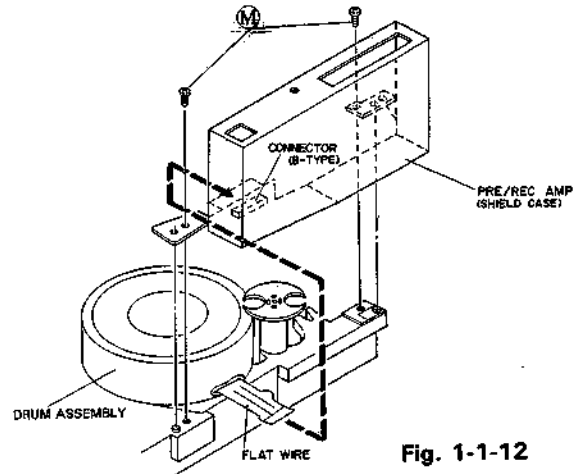

Fig. 1-1-12
3. Refer to Fig. 1-1-12, take out 2 screws (M) and disengage flat wire.